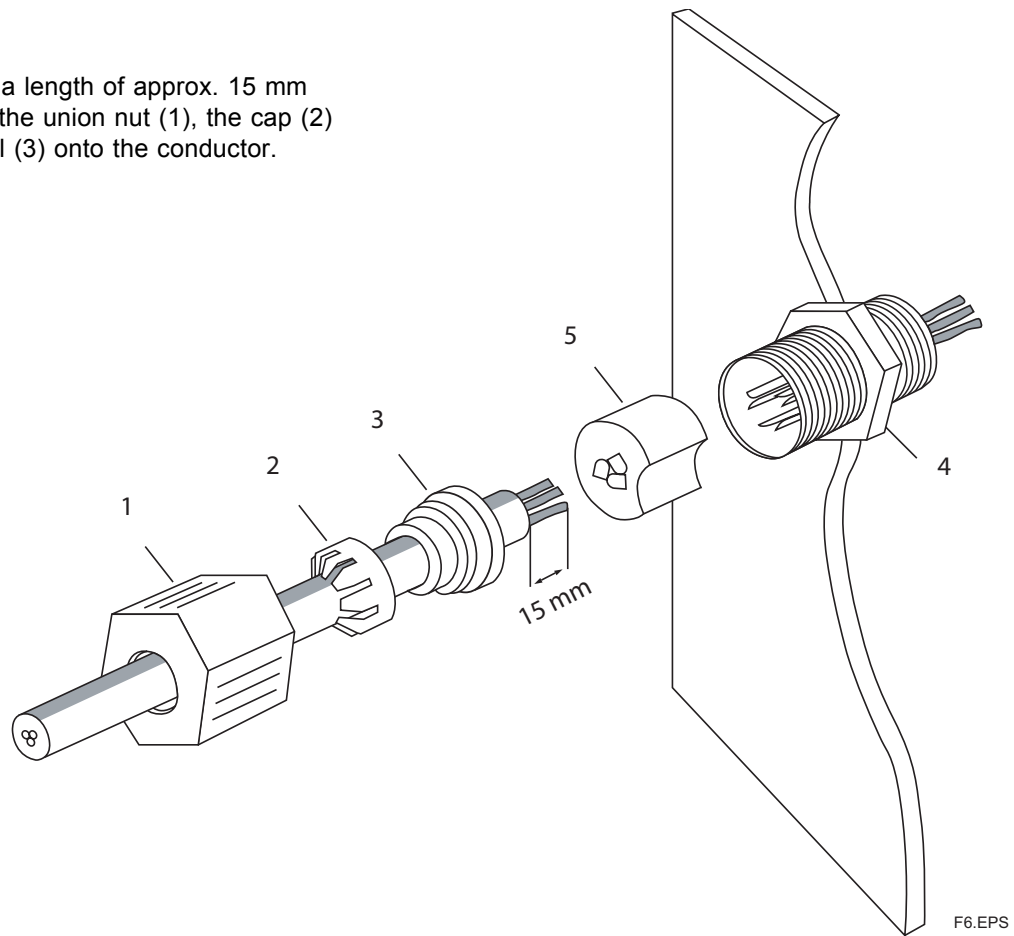

Fig. 3-4
- Strip the sheath to a length of approx. 15 mm (fig. 3-4) and slide the union nut (1), the cap (2) and the rubber seal (3) onto the conductor.